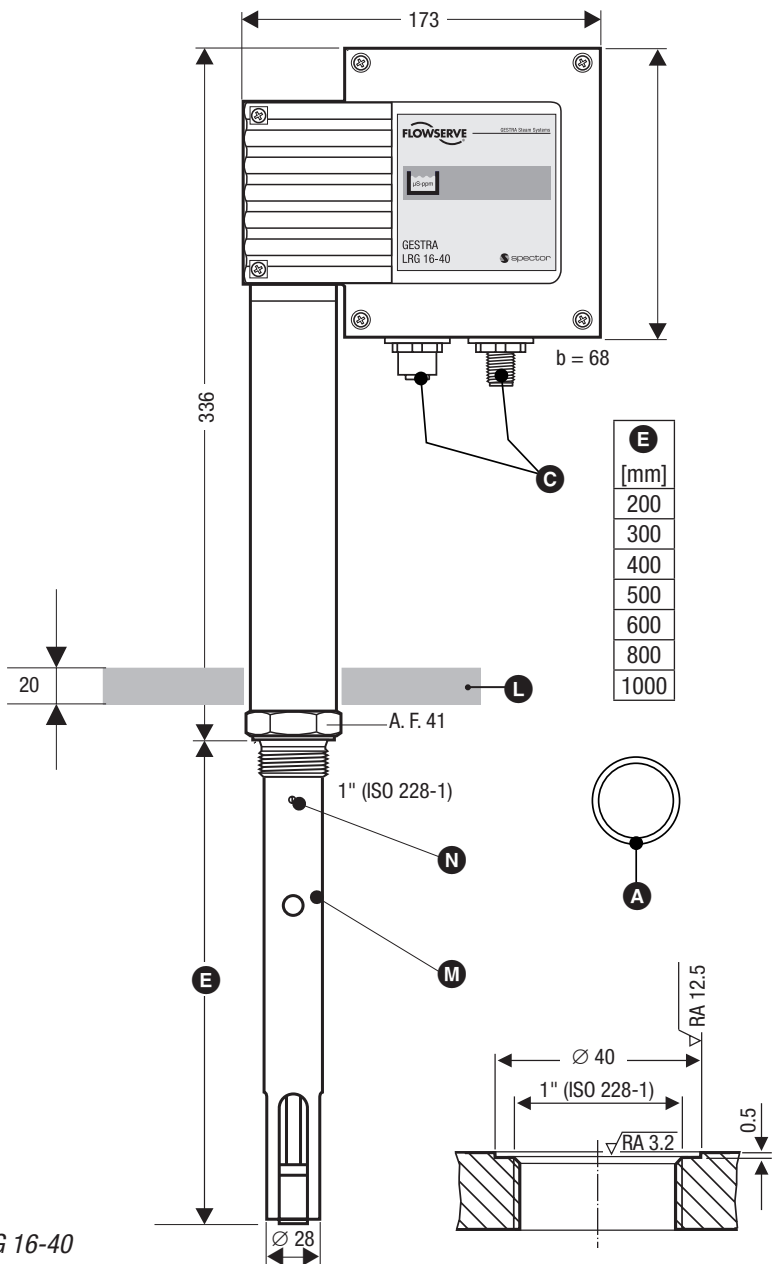

Fig. 2 LRG 16-40
1. Check seating surfaces of threads or mounting flange provided on vessel or boiler standpipe (see **Fig. 2, 3, 4**). If necessary rework the surfaces according to the specifications indicated in the drawing.